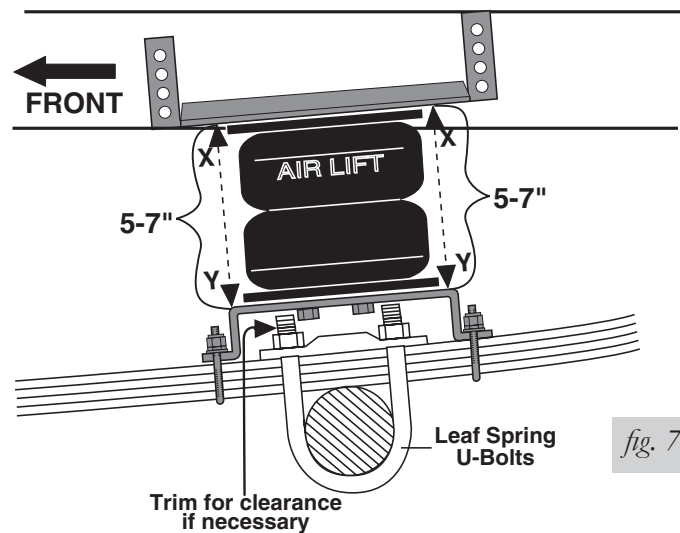

fig. 7
*NOTE: Some vehicles may require the leaf spring U-bolts to be trimmed to allow the bottom bracket to fit properly (Figure 7).*
1. Align the assembly vertically and horizontally (Figure 7). There must be sufficient clearance between the air springs, the frame, and the tire and brake drum at the maximum inflated diameter (7.0"). Tighten the upper bracket and mounting bolts for the bellows to 20 ft./lbs.